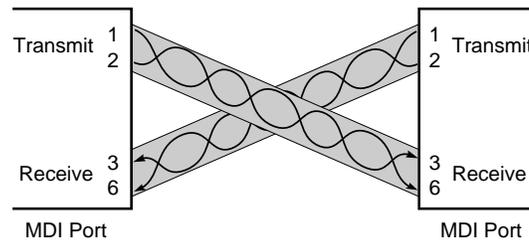

Figure A-2. External Crossover Function
- Externally, with a crossover UTP cable that reverses the transmit and receive wire-pairs at the RJ-45 connector on one end of the UTP cable (see Figure A-2)